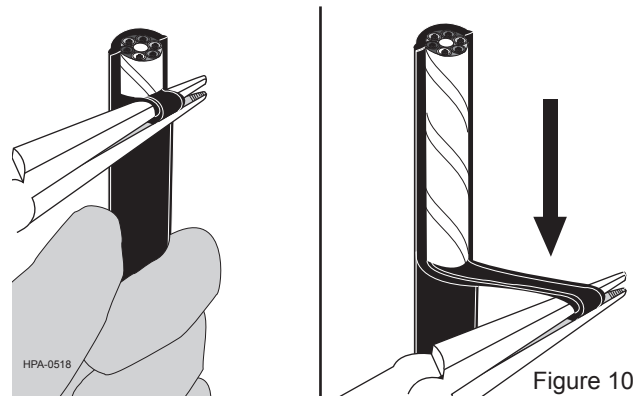

Figure 10
Step 3: Reposition the pliers on the split sheath perpendicular to the cable's long axis. "Roll" the end of the split sheath with the pliers for a secure grip and then pull the pliers and end of the sheath 90° away from the cable core (Figure 10). Continue the split down to the tape wraps.